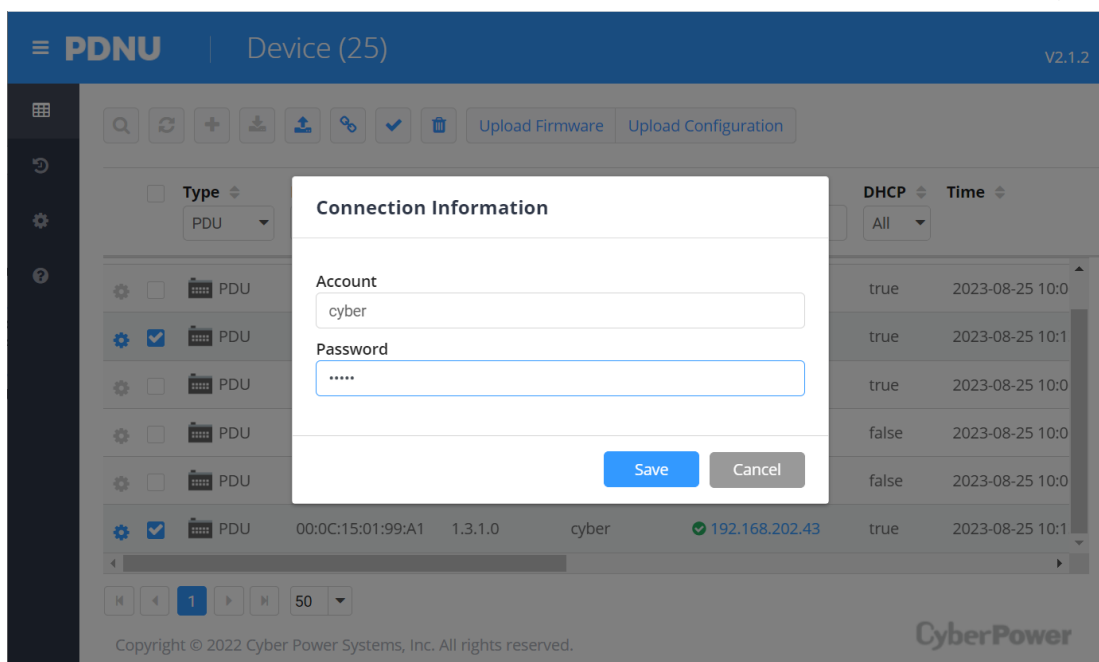

Figure 3.
5. Make sure **Account** and **Password** are valid on selected devices (Shown in Figure 3).